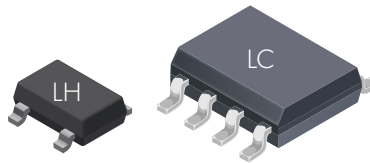

Figure 1: Allegro packages with basic insulation
**Basic insulation:** Basic insulation is used in conjunction with an additional redundant insulation system to create a fault-tolerant double insulation system and may be all that is required if there is another insulation system already in place. Basic insulation is allowed to create a fault (the insulation can short), but the system should remain safe. On the other hand, two basic systems may not add up to the requirements of double insulation. Care must be taken when deciding the architecture of a final system. The LC and LH packages are examples of Allegro packages with basic insulation (refer to Figure 1). See the Allegro website for a more extensive list of Allegro packages and devices.